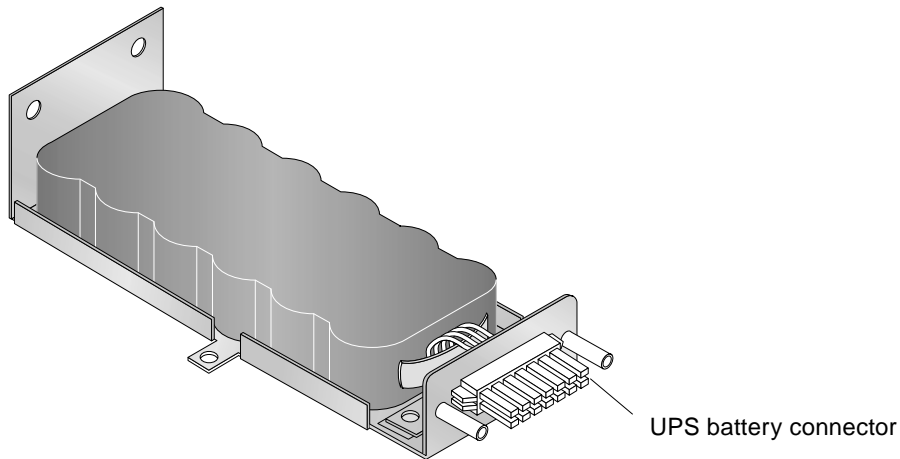

FIGURE 6-12 UPS Battery
5. Slide the new battery in at a slight angle, matching the male connector on the battery with the female connector on the power and cooling unit (FIGURE 6-12).